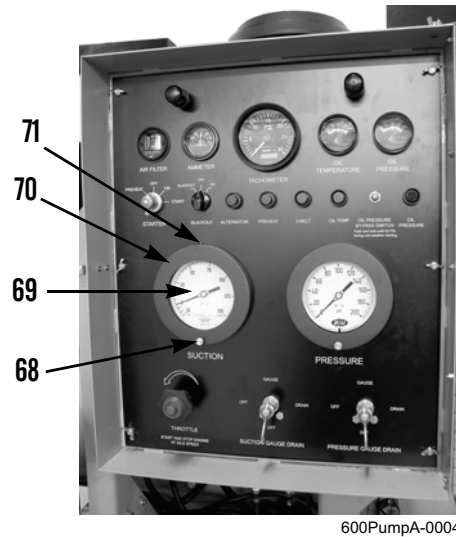

Figure 22. Suction Gauge Cover.
1. Loosen thumbscrew (Figure 22, Item 68), setscrew (Figure 22, Item 71), and remove cover (Figure 22, Item 70) from suction gauge (Figure 22, Item 69).